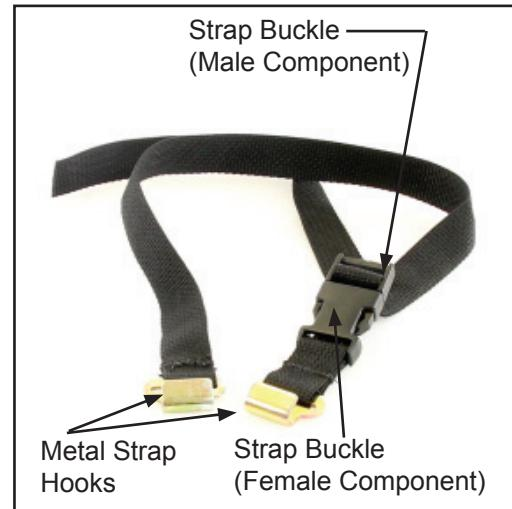
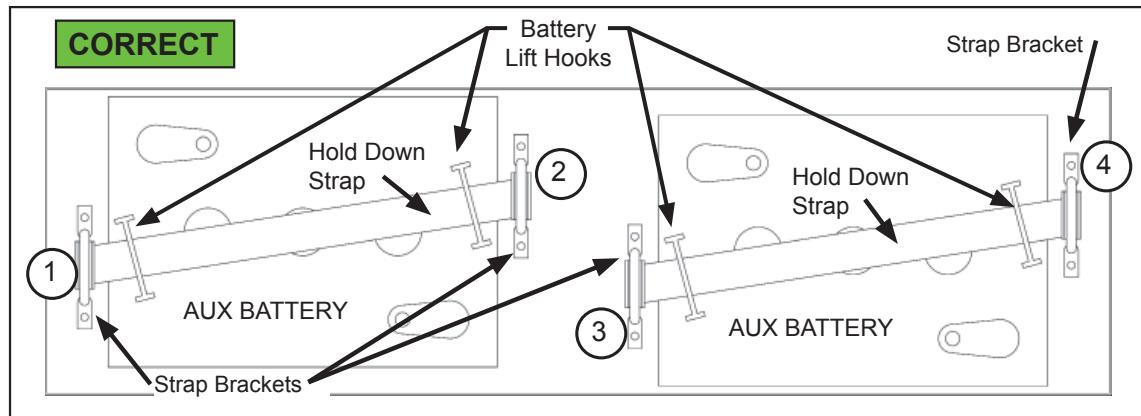

Figure 10
Figure 11
10. Using the original battery hold down straps removed in Step #7, follow the instructions below to ensure there is no contact between the battery hold down straps and the battery post(s). Refer to Figure 10 for strap component descriptions and to Figure 11 for a photo of a completed repair.